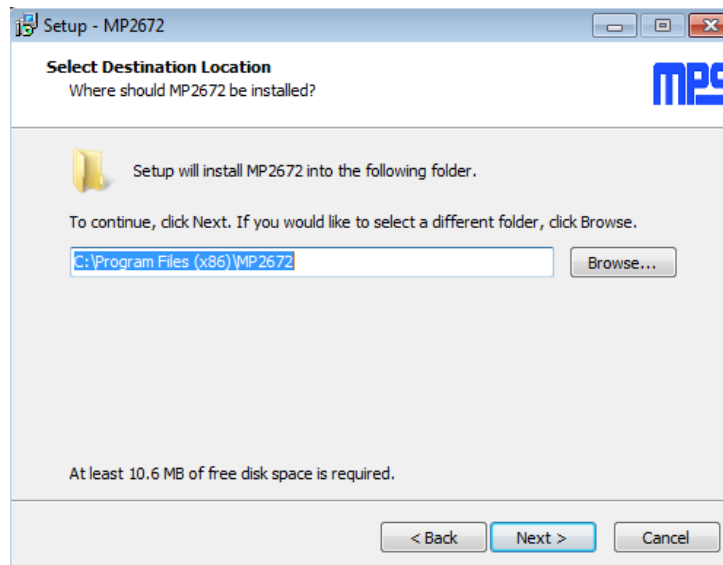

Figure 4: I²C GUI Set-Up Guide
2. Double-click the .exe file to open the set-up guide (see Figure 4).